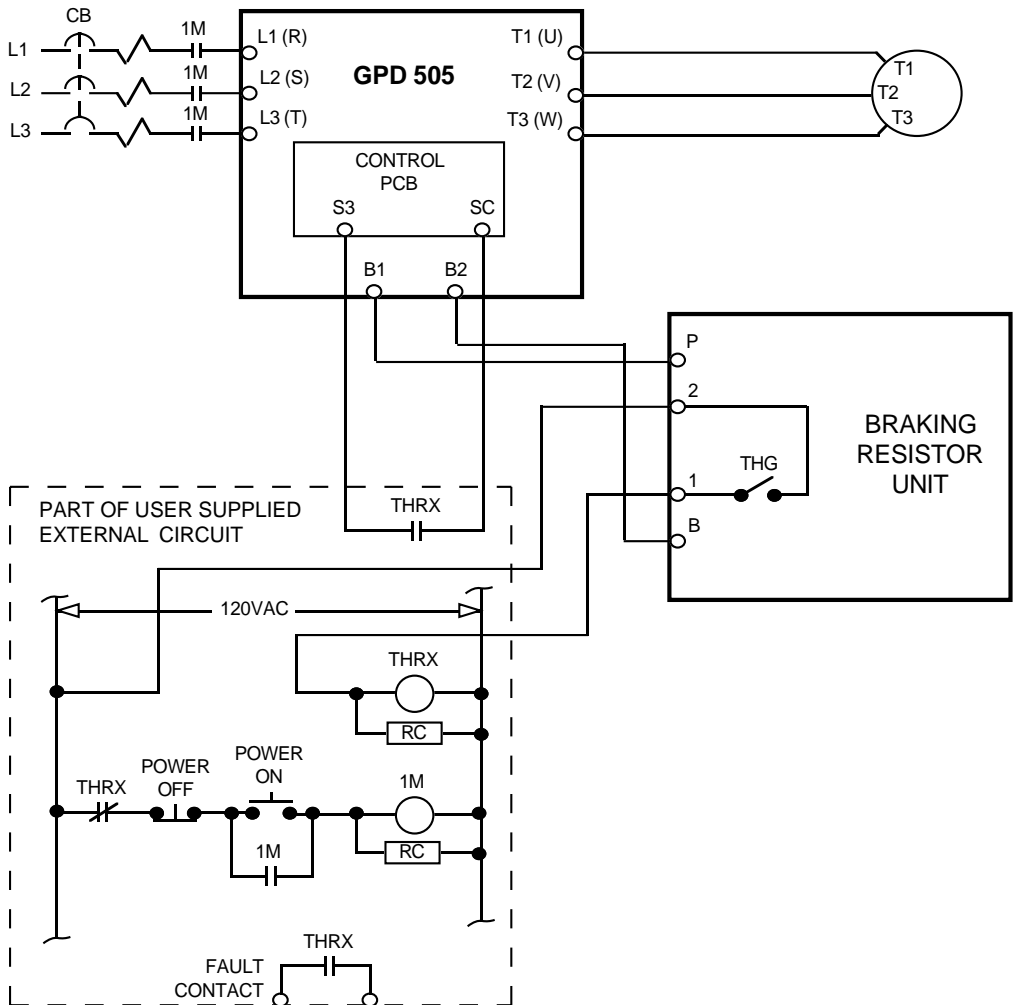

Figure A7-3. Wiring Braking Resistor Unit to Drive
2. Remove the Braking Resistor Unit front cover to access its terminal block. Connect the Braking Resistor Unit to the drive and to external control circuitry according to the chart at right and Figure A7-3.